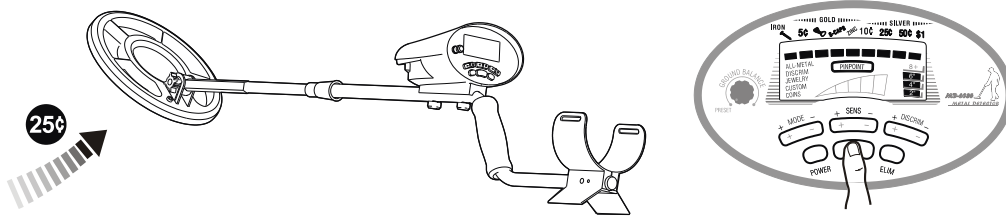

Fig18
- b) Let the 25¢ silver coin approach the search coil slowly, when it is in the position of about 8” , the lower cursor begins to appear, and the sound turns louder. Continue let the 25¢ silver coin is closer to the search coil, until the lower cursor is full-scale lighted, and the sound is louder, the depth cursor denotes the depth dropping.(See Figure.18)